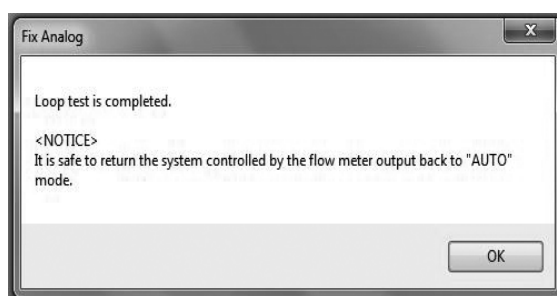

Fig. 3-52
- (5) By clicking "Stop" button, the message box (Fig. 3-52) will be displayed. Click "OK" button.